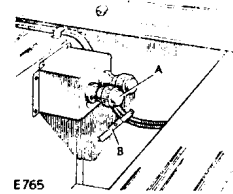

Fig. 117. Insulated terminals
296. A pair of insulated terminals (Fig. 117) are mounted on a bracket attached to the left wheel arch beneath the radio table. These terminals provide a safe stowage for the ends of the battery/terminal box leads when disconnected from the battery. When the engine is running, these leads are 'live' and must be stowed on the insulated terminals when disconnected.
- (5) Release the two runner assemblies, each is secured by four bolts with nuts and locknuts.
- (6) Release the two spring-loaded fasteners from the hooks on the front of the battery cover.
- (7) Carefully withdraw the cover rearwards from the batteries.
- (8) Slacken the wingnuts securing the slotted battery interconnector and remove the connector. Do not remove the battery post connectors. If two sets of batteries are fitted, disconnect the second set similarly.
- (9) Similarly release the remaining two battery connections, double back the leads and secure the spade terminals to the insulated terminals (Fig. 117 (A)) on the side of the left sill. Locate the doubled-back section of the leads in the spring clips (Fig. 117 (B)) alongside their forward run.
- (10) Release the batteries secured by the swivel type clamps, and lift them from the carrier.
- (11) Release the battery carrier secured by ten countersunk bolts with nuts and spring washers.